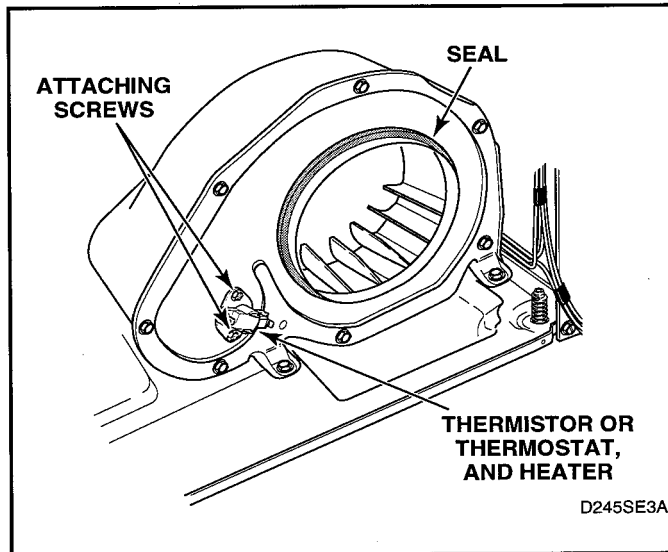

Figure 5-12
- Disconnect wires and remove thermostat attaching screws, thermostat and heater. See figure 5-12.
IMPORTANT: When reassembling, be sure felt seal on exhaust fan cover makes airtight seal on flange of duct. See figure 5-12. If the seal is installed improperly, the airflow through the exhaust system will be restricted which can adversely affect dryer performance.
IMPORTANT: When reassembling, be sure seal on exhaust fan cover makes airtight seal on flange of duct. See figure 5-12. If the seal is installed improperly, the airflow through the exhaust system will be restricted which can adversely affect dryer performance.